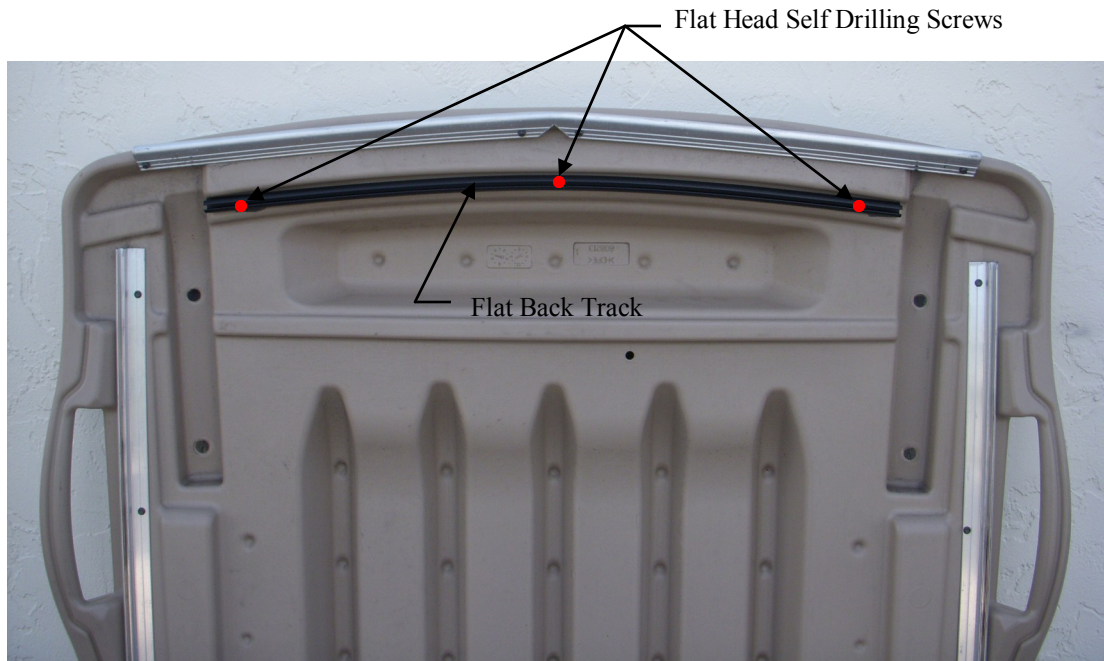

Figure 2-1
1. Begin by installing the flat back track in the location as shown in figure 2-1. Apply the adhesion promoter to the surface area of where the flat back track is to be installed. Immediately after applying the adhesion promoter remove the plastic backing from the track and adhere the flat back track to the proper location on the roof.
2. Install three flat head self drilling screws in the locations shown in figure 2-1.